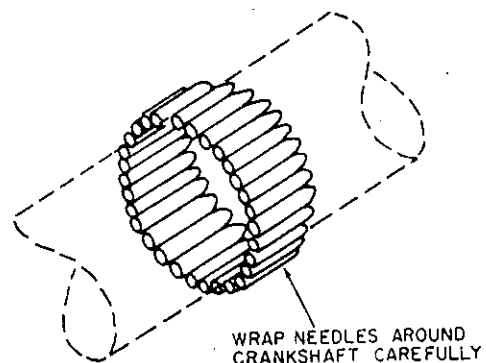

Figure 29
(1) Install new needle rollers as follows:
- Remove paper backing from bearings and wrap needles around crankshaft journal. Beeswax will hold needles onto journal. Needles must be positioned uniformly onto the crank pin. (See Figure 29.)